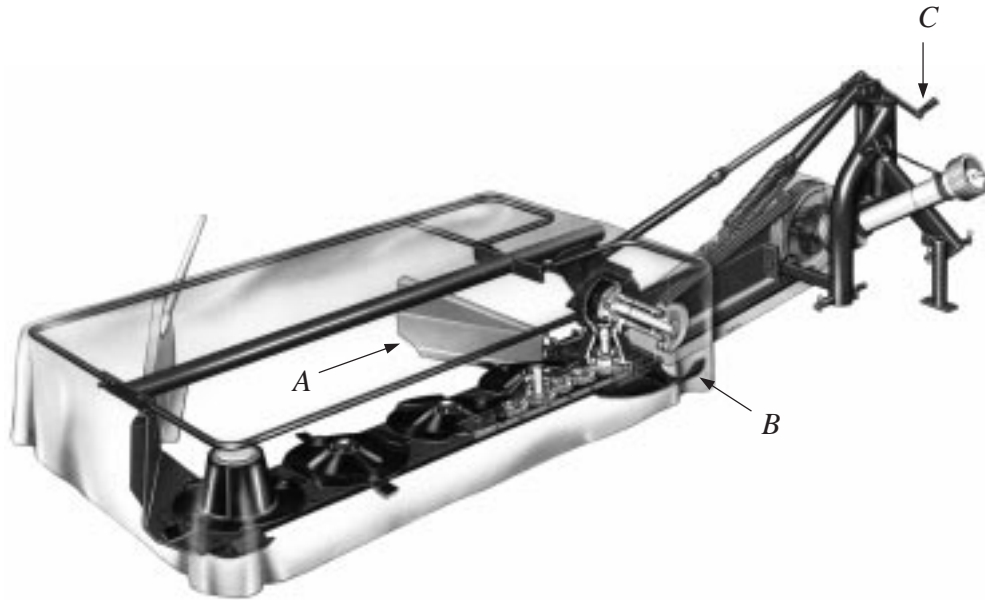

FIG. 1
- (a) (i) Name the machine shown in Figure 1.